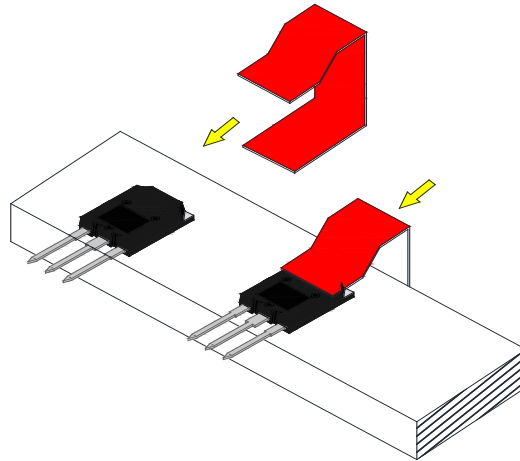

Fig. 16 Direct mounting with spring clip - B
- Mount the device on the heatsink using 15N ~ 50N spring clip, as shown in Figure 16.